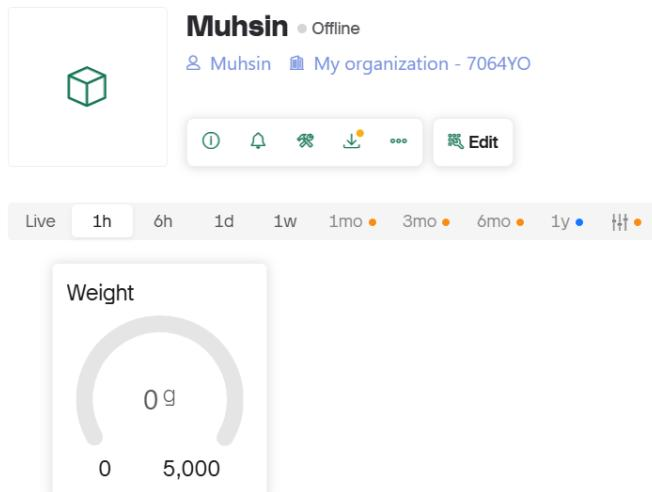

Figure 6: Blynk Cloud Interface
- You can open your Blynk account and see the current weight, as shown in the Figure 6.